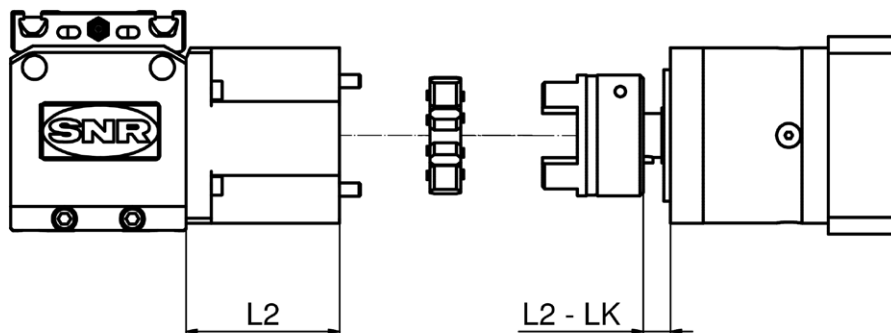

Figure 3.8 ___ Mounting dimension
3. Insert this assembly into the coupling half with elastomer gear rim screwed to the drive head **6**, and tighten them with the screws **7**. Consider the dimensions LK and L2 (Figure 3.8) from Table 6.20, Chapter 6.2.3.2.